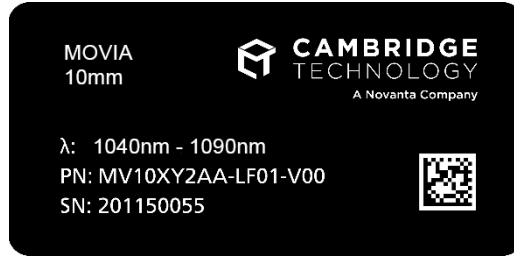

Figure 3: Product Label
To identify the configuration of your product, refer to the product label located on the side of the scan head. Information on the product label (Figure 3) identifies the model name, laser wavelengths compatible with the scan head ( $\lambda$ ), part number (PN), and serial number (SN) of your product.